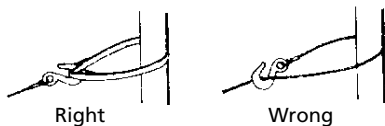

Figure 6
7. Never hook wire rope back onto itself. Use a nylon sling (See Figure 6). Hooking wire rope onto itself can damage rope. When using a sling, make sure that sling is properly seated in saddle of hook.